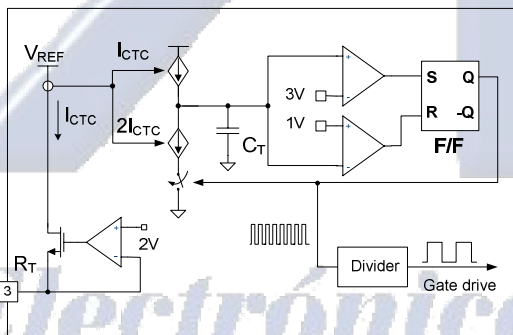

Figure 16. Current Controlled Oscillator
**2. Internal Oscillator:** FSFR-US series employs a current-controlled oscillator, as shown in Figure 16. Internally, the voltage of RT pin is regulated at 2V and the charging / discharging current for the oscillator capacitor, CT, is obtained by copying the current flowing out of the RT pin (ICTC) using a current mirror. Therefore, the switching frequency increases as ICTC increases.